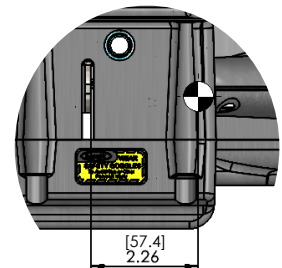

Figure 31
- Note that the center of gravity is behind the hanger bracket. For best performance, the pivot point should be located on the CG, not directly on the hanger bracket. (Fig 31)